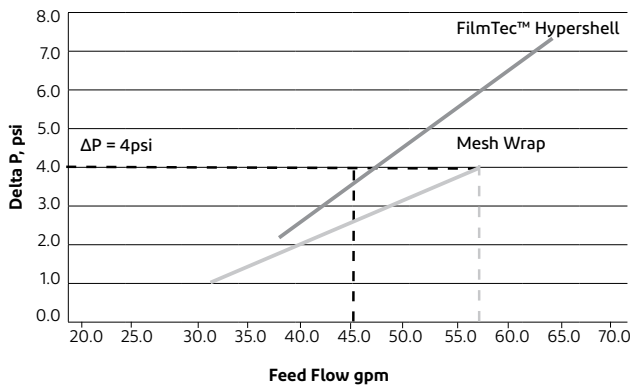

Figure 1: Feed Flow vs Pressure Drop for Mesh Wrap and FilmTec™ Hypershell™ Elements.
- Have reduced bypass compared to conventional full-fit, mesh wrapped elements, which may result in energy savings (see figure 1), improved product processing and efficient Clean In Place (CIP).